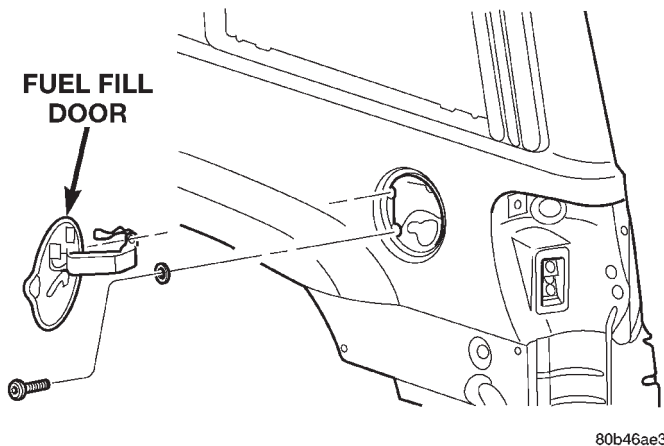

Fig. 52 Fuel Filler Door
- (1) Open the fuel filler door.
- (2) Remove the screws attaching the door to the quarter panel (Fig. 52).
- (3) Remove the door from the panel.